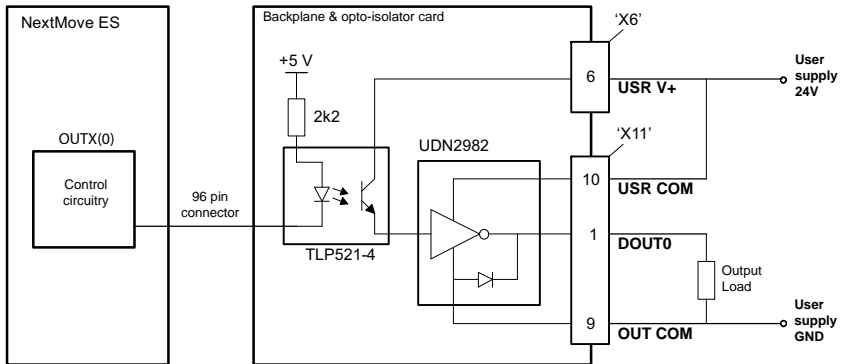

Figure 38: Digital output circuit (DOUT0-7) with 'PNP' current sourcing module - DOUT0 shown
* The BPL010-502 and BPL010-503 opto-isolating cards use different output driver ICs, as shown in Figures 38 and 39. Due to the pin configuration of these ICs, the functions of the X11 connector's USR COM and OUT COM pins are different on the PNP and NPN cards. Sections 5.3.6.1 and 5.3.6.2 describe the two output types.
An external supply (typically 24 V DC) is used to power the UDN2982 output devices, as shown in Figure 38. When an output is activated, current is sourced from the user supply through the UDN2982, which can source up to 75 mA per output (all outputs on, 100% duty cycle). Connect OUT COM to the user supply GND. This will connect internal transient suppression diodes on all outputs. If an output is used to drive a relay, a suitably rated diode must be fitted across the relay coil, observing the correct polarity (see Figure 40). The use of shielded cable is recommended.